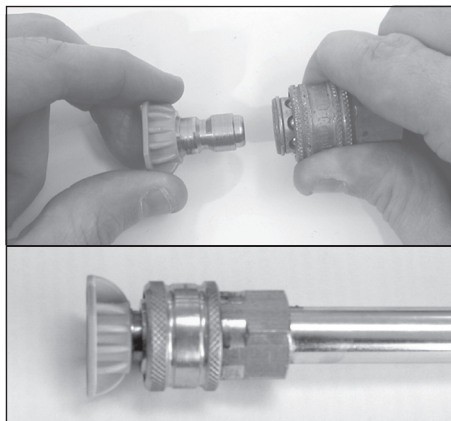

Figure 12 - Inserting quick connect tip
5. Install quick connect tip by pulling back on collar and pressing in tip. Release collar, make sure it completely returns to its forward position and tip is secure (see Figure 12).